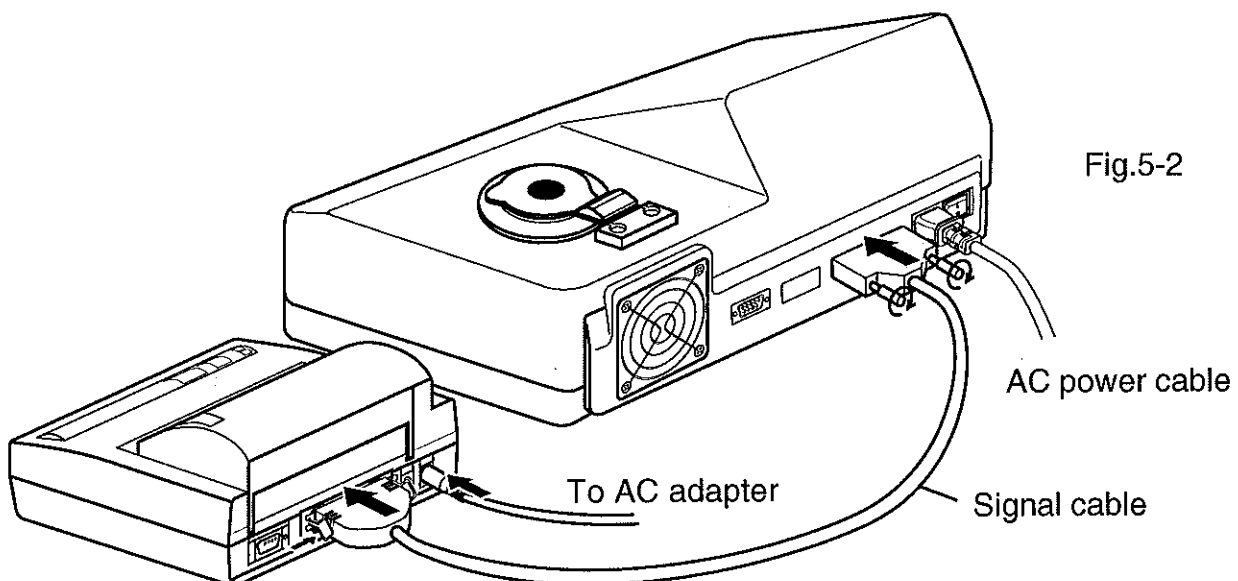

Fig.5-2
(2) Connecting the digital printer DP-RX (Optional) (Fig.5-2)